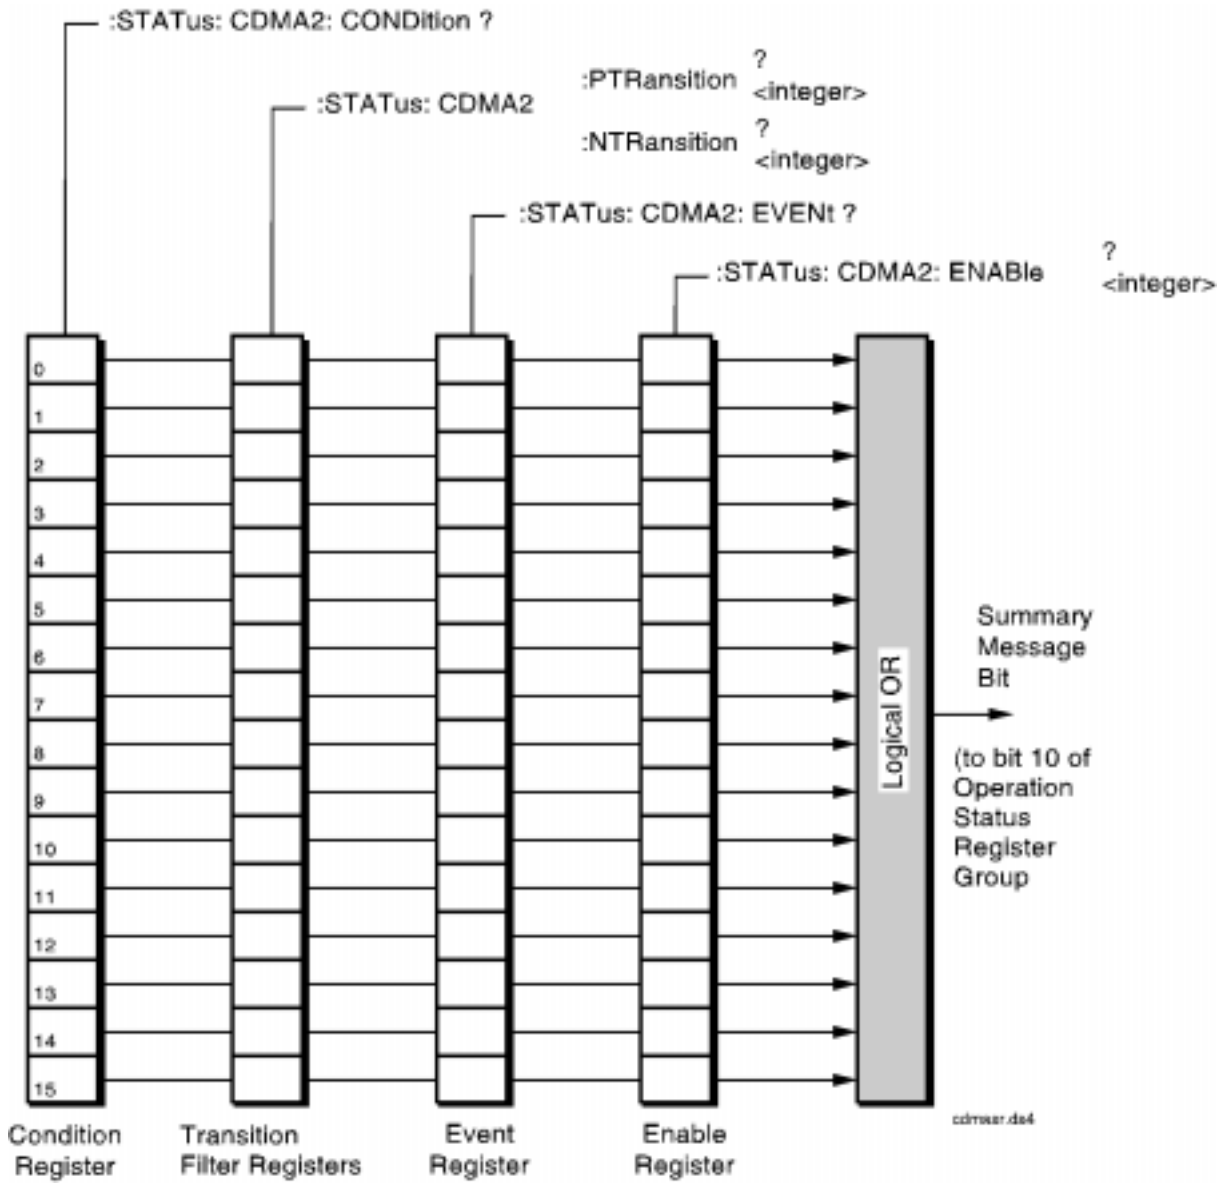

Figure 17 CDMA\_2 Status Register Group
**Figure 17** shows the structure and STATUS commands for the CDMA\_2 Status Register Group.